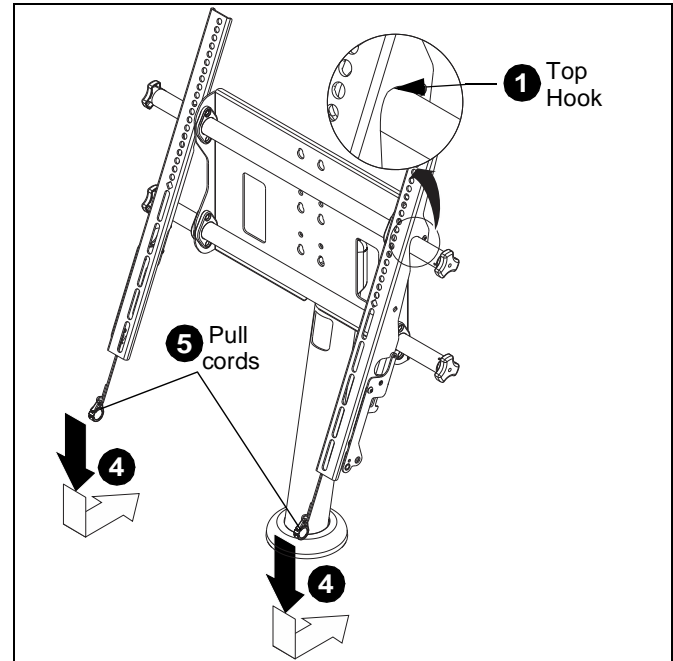

Figure 9
4. Pull downward on the pull cords and swing inward toward wall, latching interface brackets to lower rail and fastening bottom of screen to the mount. (See Figure 9)
5. Attach end of pull cord (a magnet) to mount so it does not extend beyond bottom of screen. (See Figure 9)